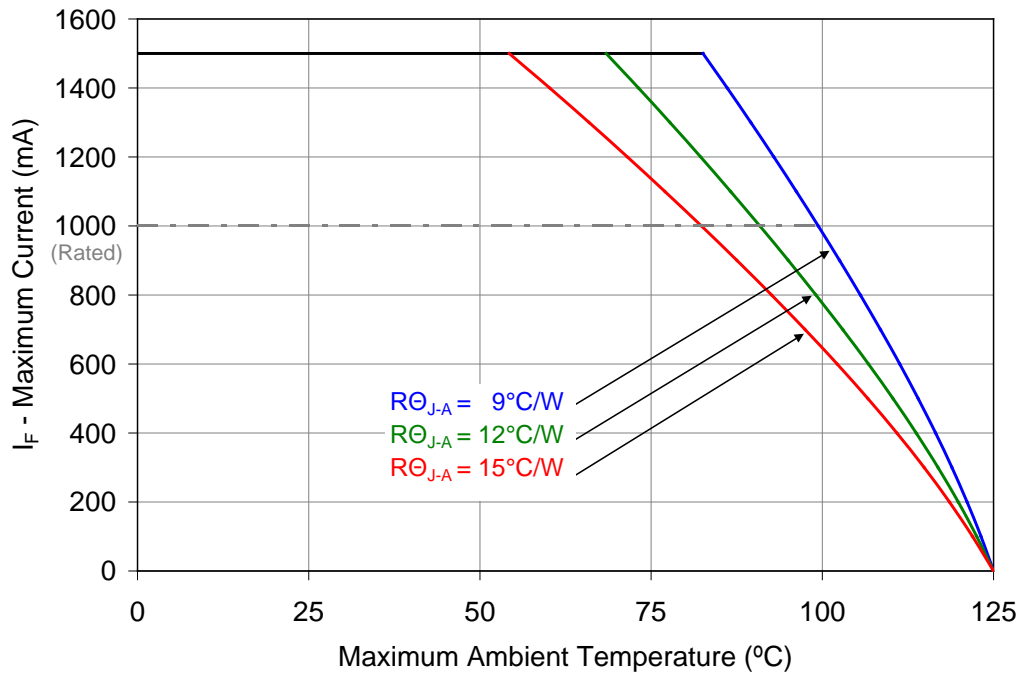

Figure 10: Maximum forward current vs. ambient temperature based on $T_{J(\text{MAX})} = 125^\circ\text{C}$.
- Maximum DC forward current is determined by the overall thermal resistance and ambient temperature. Follow the curves in Figure 10 for current derating.
Notes for Figure 10: